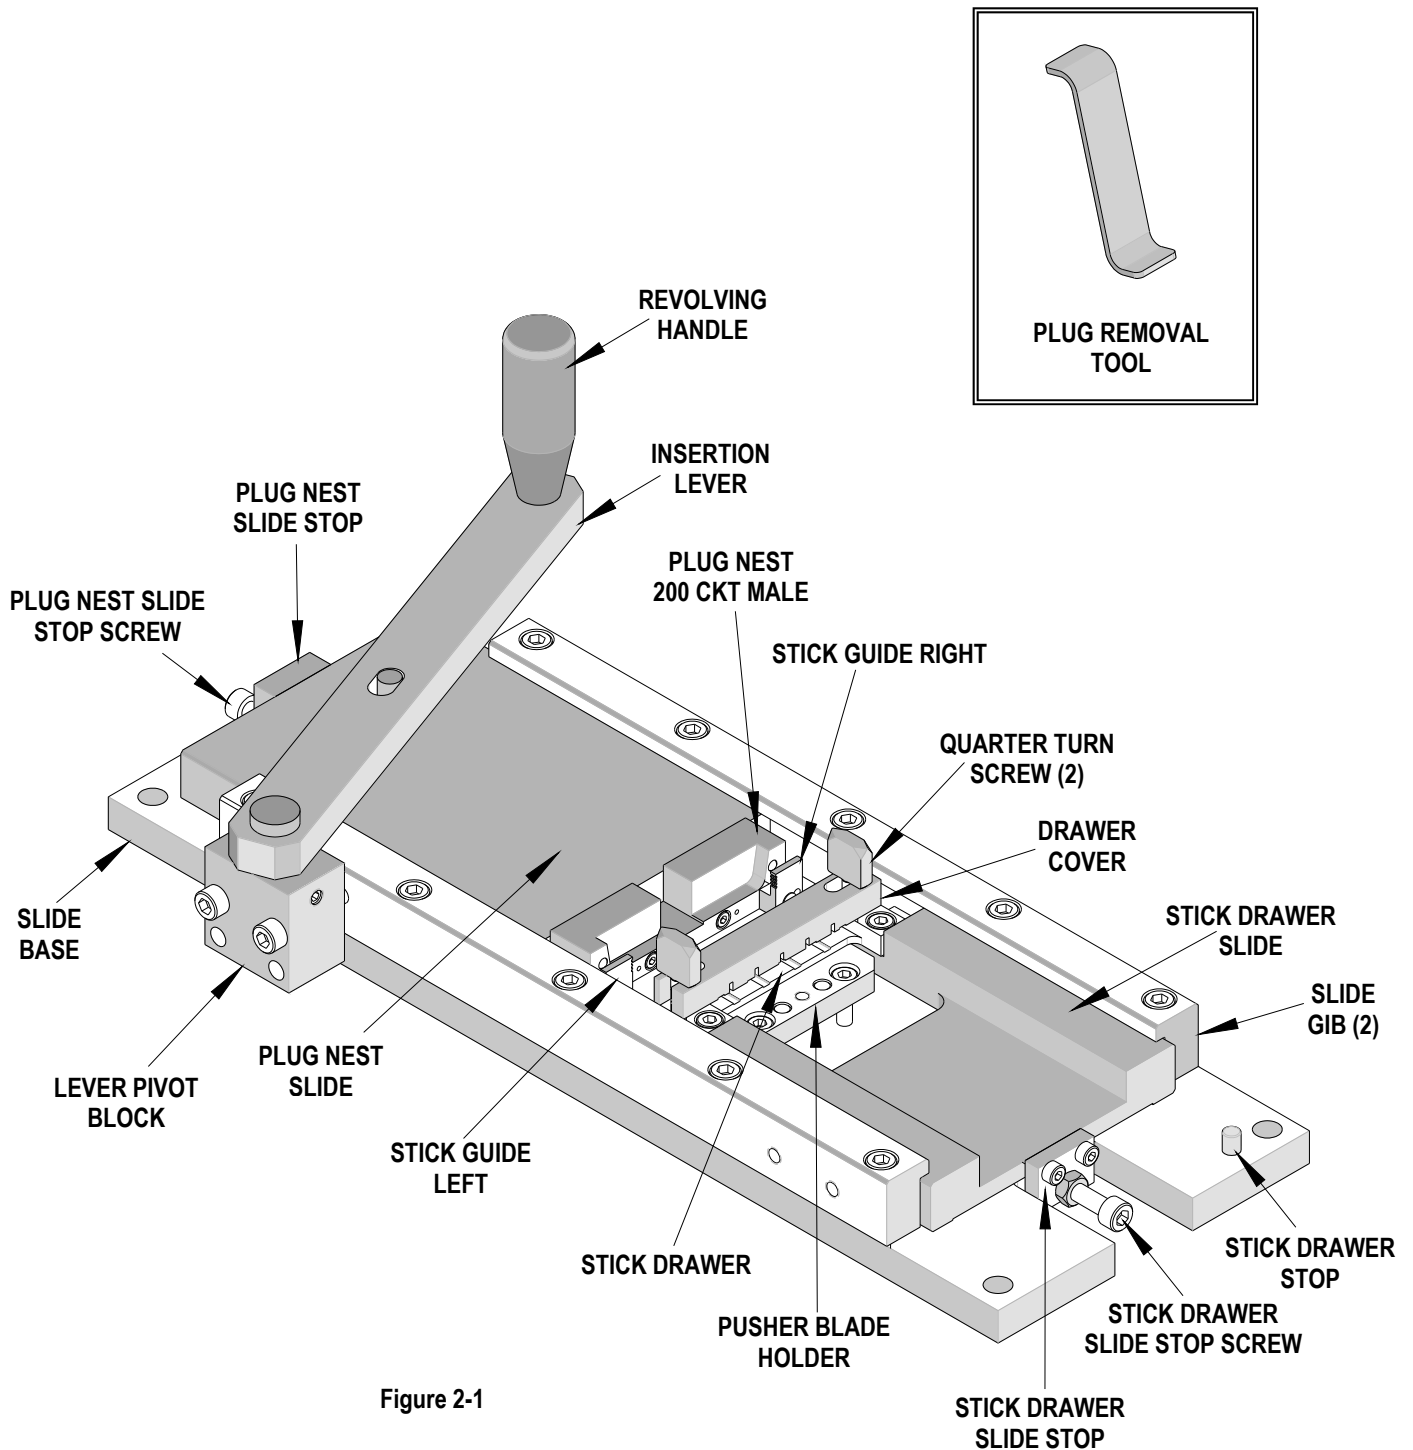

Figure 2-1
1. Loosen the lock nut on the plug nest slide and turn the slide stop screw counterclockwise several turns. See Figure 2-1.
The forward (loading) position of the stick drawer is controlled by a stick drawer slide stop screw. See Figure 2-1.